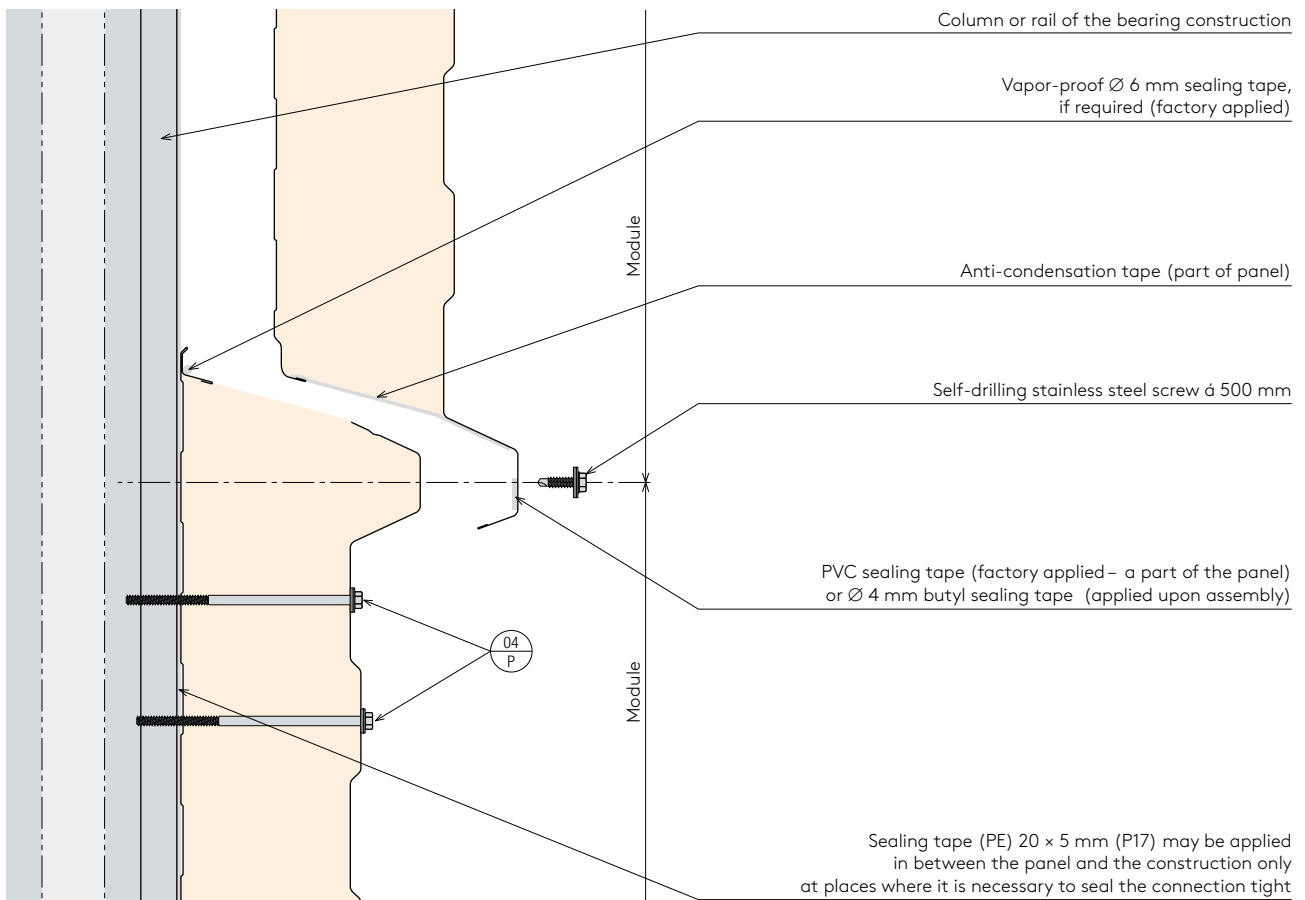

Fig. 61. – Detail D10.7. Lock of a RW panel
- The panel is fastened tight by using a tightening tool. It is necessary that the screw is appropriately tightened (see Fig. 61) so that the sealing washer can perform its function.